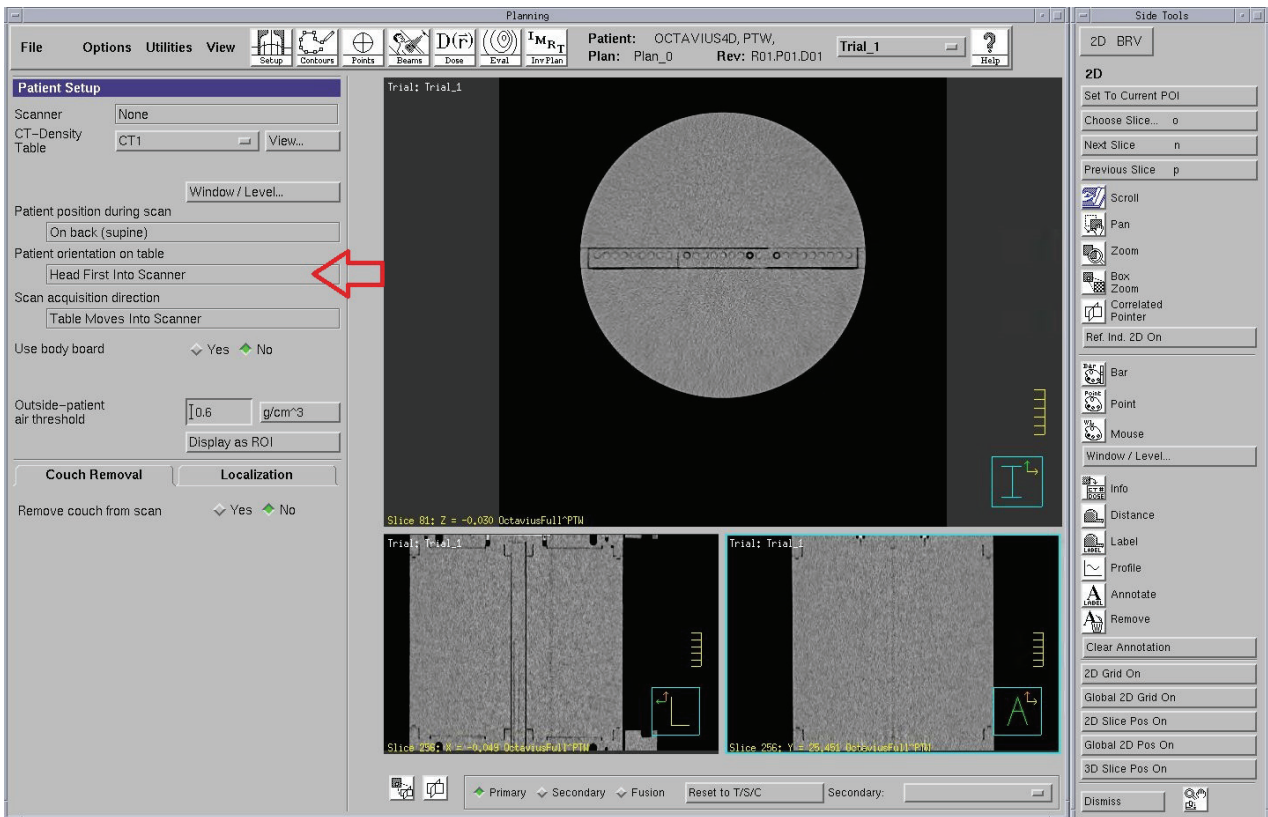

Fig. 2.8 QA phantom orientation verification
5. In the Confirm Plan Setup window, verify that the patient orientation is correct (Figure 2.8).